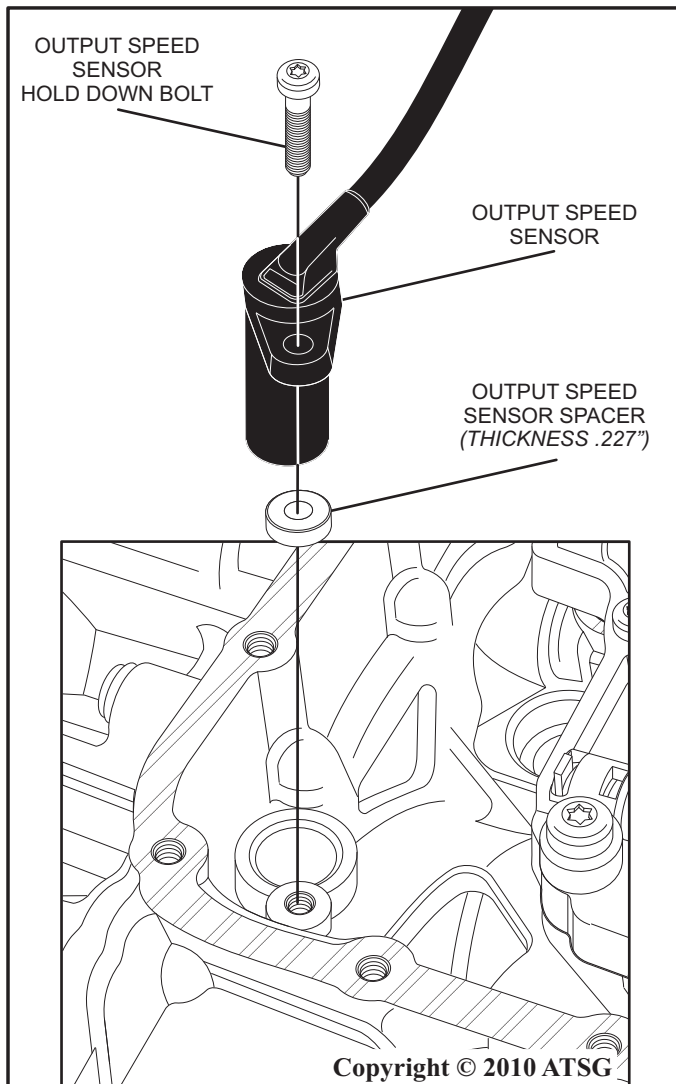

Figure 29
72. Install the output speed sensor into the case as shown in figure 29.
73. Install the output speed sensor spacer under the speed sensor as shown in figure 29.
74. Install the output speed sensor hold down bolt as shown in figure 29.